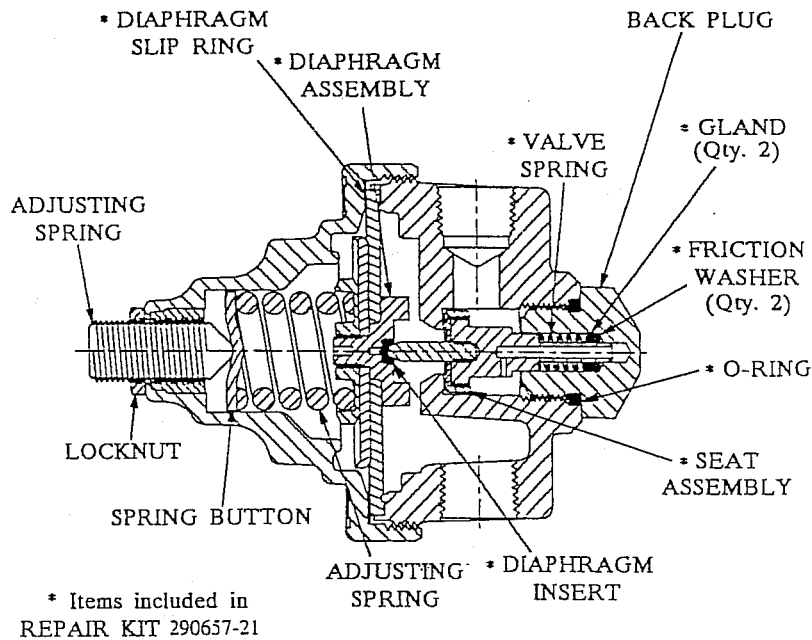
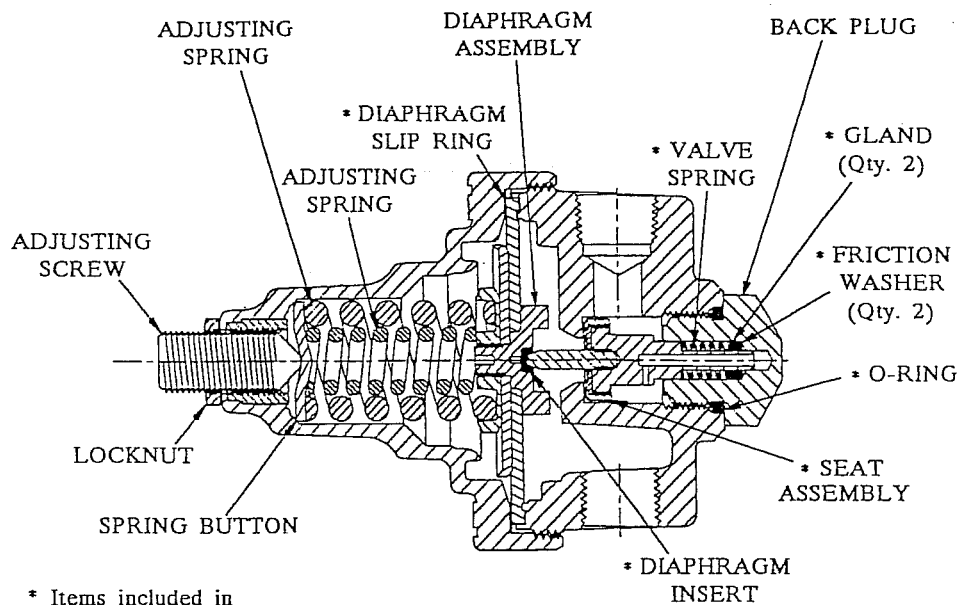

Figure 8: L700C-AM Regulator
Figure 9: L700E-AM Regulator
3. To repair the line regulator, remove the regulator cap and the diaphragm assembly. Remove the back plug and the seat assembly. Replace the components that need to be replaced. See Figure 8 (Oxygen, Air, Helium, Carbon Dioxide and Nitrous Oxide Regulator) or Figure 9 (Nitrogen Regulator) for replaceable components and the assembly schematic.